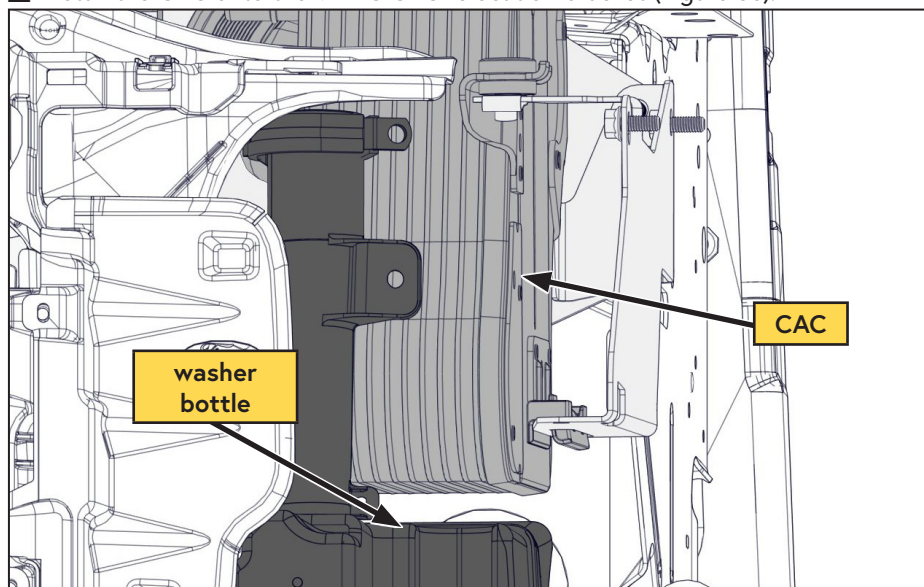

Figure 86 — Installing the CAC
- Install the CAC onto the VMAC CAC relocation bracket (Figure 86).